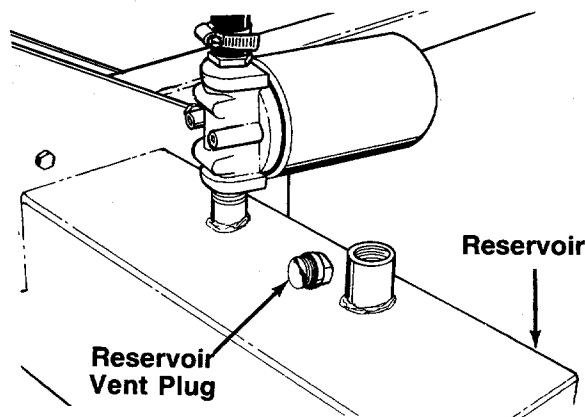

FIGURE 12.
- a. Remove reservoir vent plug. See figure 12. Using Dexron II automatic transmission fluid, fill reservoir to the top. Replace vent plug securely.